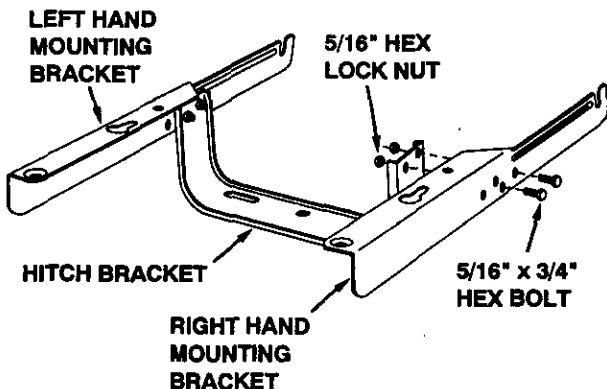

FIGURE 2
- Assemble the right hand and left hand mounting brackets to the hitch bracket using four 5/16" x 3/4" hex bolts and 5/16" hex lock nuts. **Do not tighten yet.** See figure 2.
### FOR TRACTORS RESEMBLING FIGURE 2: